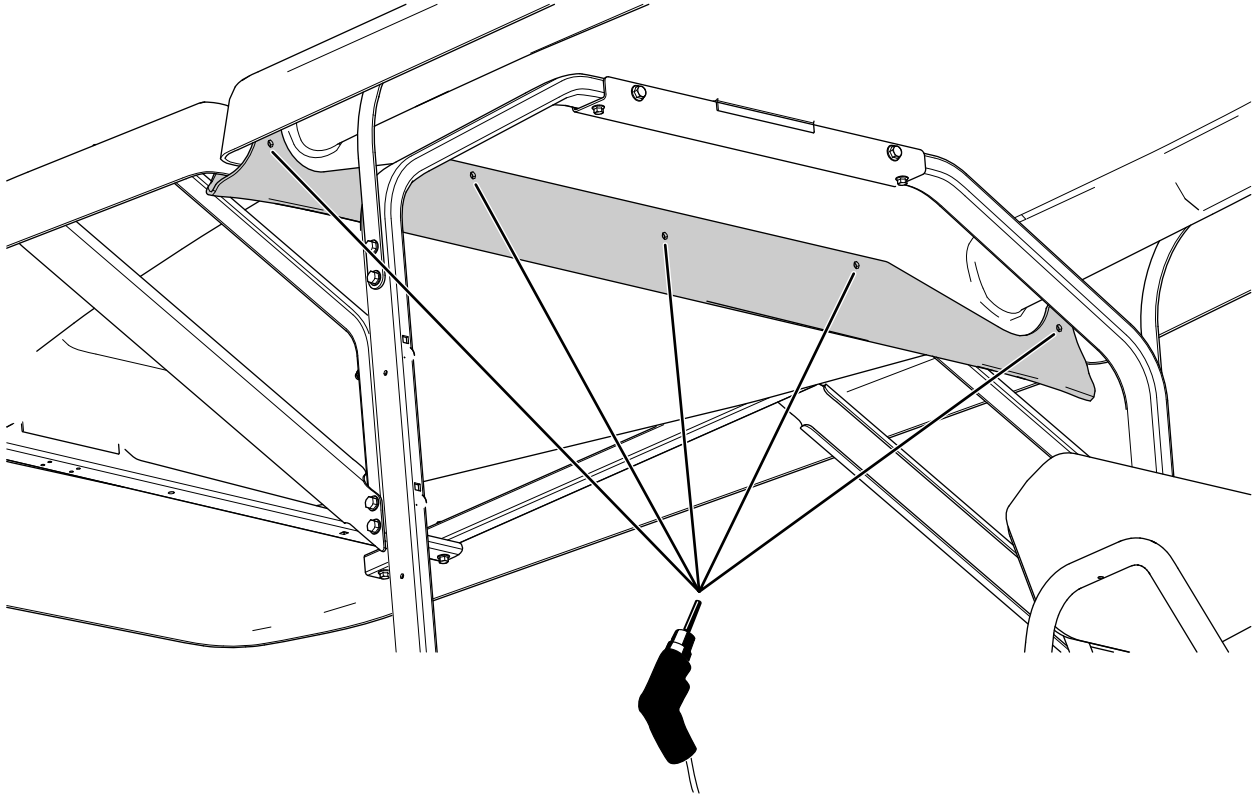

Figure 9
2. Using the rain gutter as the template, drill 5 holes (6.4 mm or 1/4 inch) into the front canopy (Figure 9).